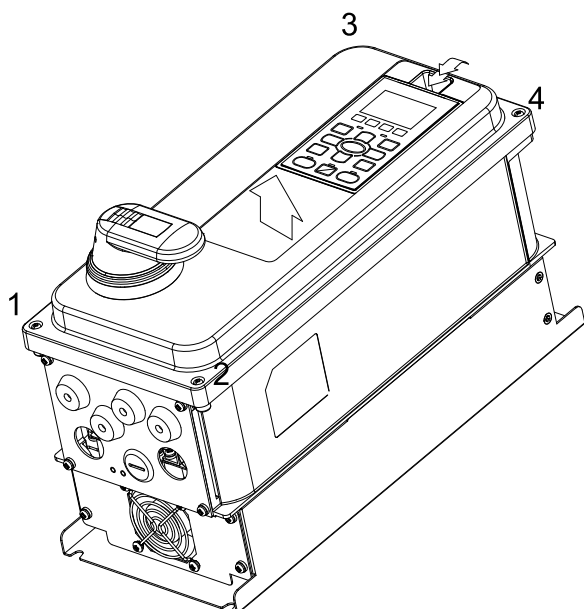

Figure 7-60
1. Press the hook in the top of digital keypad, and then rotate to remove the digital keypad. (Refer to Figure 7-60)